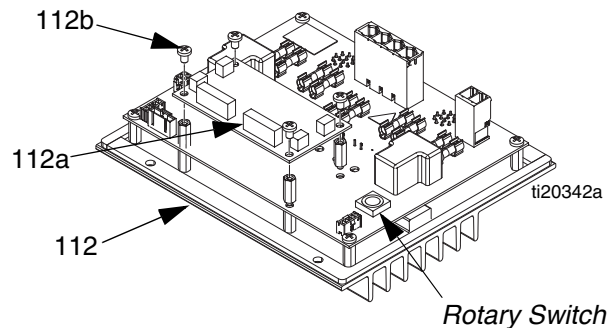

FIG. 48
1. Set MZLP rotary switch to “1” on MZLP with daughter card. Set MZLP rotary switch to “2” or “3” on MZLP without daughter card, based on location. See FIG. 48 for rotary switch location.